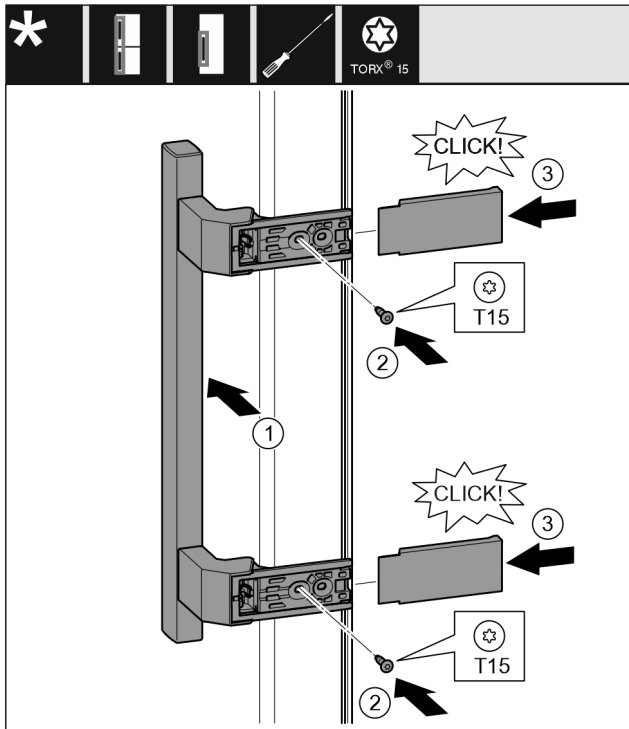

Fig. 20
- ▶ Position the handle on the opposite side. Fig. 20 (1)
- ▶ Tighten the screws using the T15 screwdriver. Fig. 20 (2)
- ▶ Position the covers on the side and push them on. Fig. 20 (3)